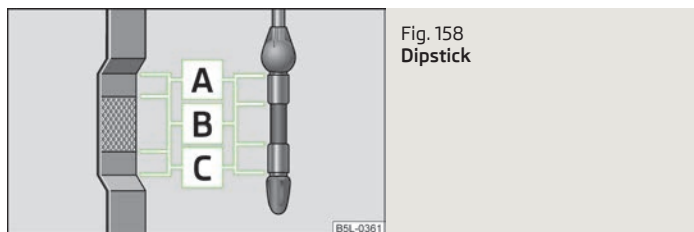

Fig. 158
The dipstick indicates the level of oil in the engine » Fig. 158.
- The oil level must on no account extend beyond the range **A** » Fig. 158. Risk of damaging the exhaust system!